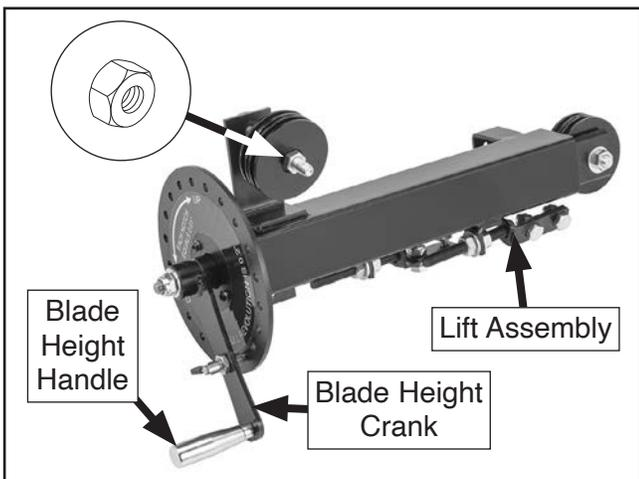

Figure 32. Blade height handle installed in blade height crank and location of hex nut to remove from lift assembly.
29. Thread blade height handle into blade height crank of lift assembly, as shown in **Figure 32**.
30. Remove hex nut shown in **Figure 32** in order to remove (2) cable pulleys, (4) flat washers, spacer, and hex bolt from lift assembly.